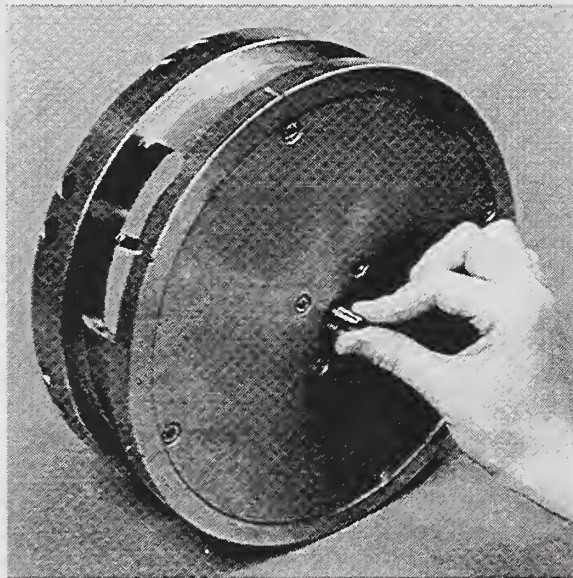

Figure 15. Inserting threaded stud adapter into the center hole of the base unit
- Step 3. Select the appropriate threaded stud adapter that matches your threaded table insert and screw the M10 end of the threaded stud adapter into the center hole in the base unit. Refer to Figure 15.